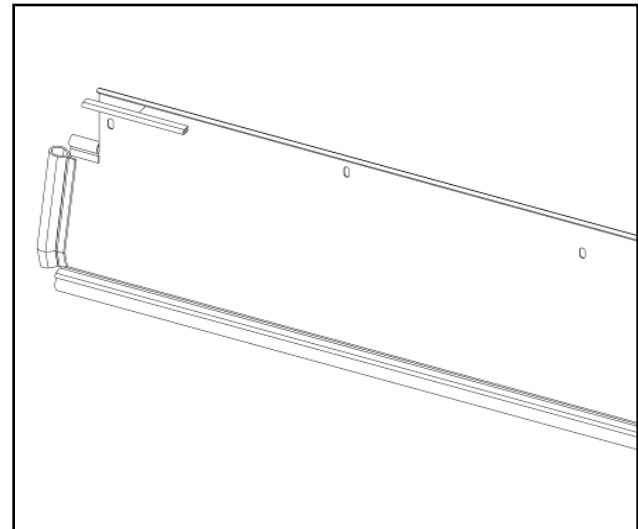

Fig. 13.2 Lower Rear Panel with Trim-Lok
13.2 Install 6 inch piece of Trim-Lok provided in the A/C Alternator kit to the lower rear panel as shown in figure 13.2.